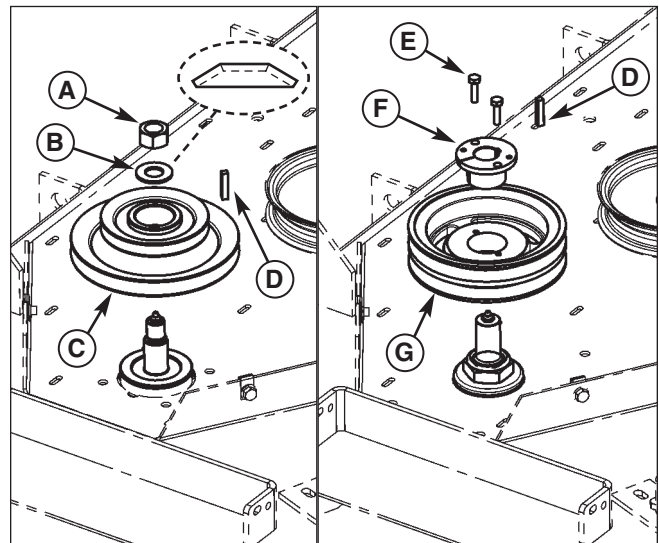

Figure 23. Install Double Spindle Pulley
1. Install the double spindle pulley (C, Figure 23) and 1/4" key (D) onto the spindle shaft.